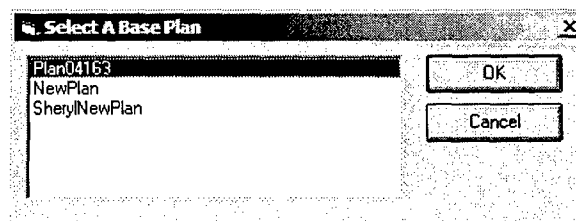

Figure 18. Select Base Plan for ACOL Calculation
4. Next, select a Base Plan (Figure 18). The Base Plan should contain the multiplier levels that most accurately represent the levels that were available to Soldiers during the base year. Because the Army may have, in fact, experienced several changes in the plan over the course of the fiscal year, the Base Plan should be constructed as a composite.